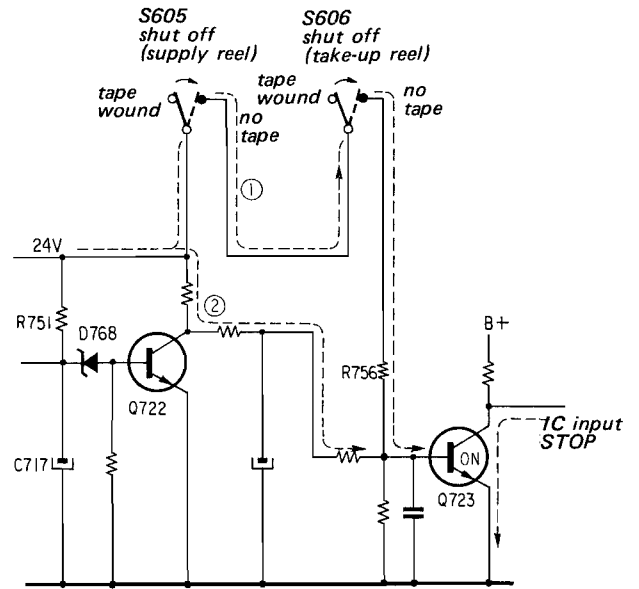

Fig. 14
**12. STOP Circuit (Refer to Fig. 14)**